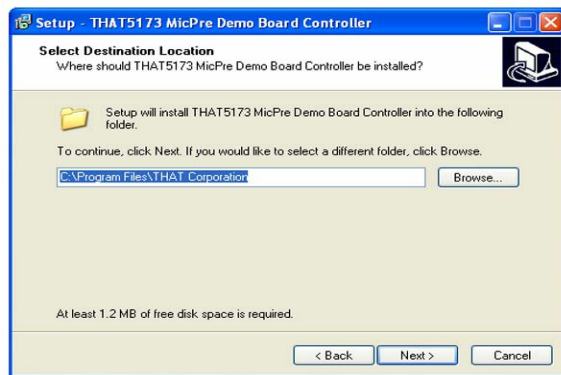

Figure 6. Selecting the software hard disk location
5. The first thing the wizard asks is where you want to put the GUI (Figure 6). We recommend a THAT Corp folder, as shown in the figure. Navigate to where you want the GUI to be installed, and then click NEXT.